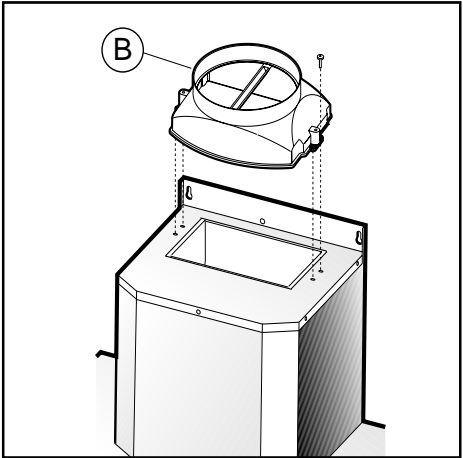

Fig.3
- If a connection tube composed of two parts is used, the upper part must be placed outside the lower part. Do not connect the range hood exhaust to the same conductor used to circulate hot air or for evacuating fumes from other appliances generated by other than an electrical source. Before proceeding with the assembly operations, remove the anti-grease filter(s) (Fig.3 G) so that the unit is easier to handle. In the case of assembly of the appliance in the suction version prepare the hole for evacuation of the air.